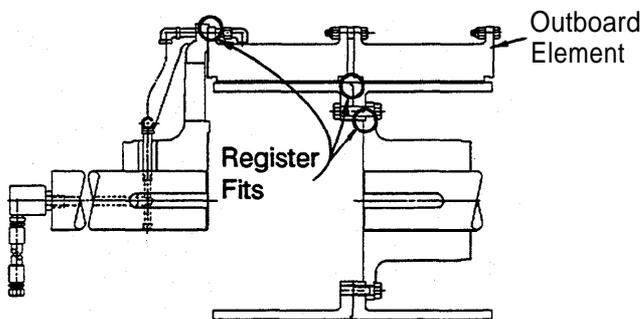

Fig. 4
2.1.1 Airflex VC grinding mill clutch applications are available in single-narrow, single-wide, dual-narrow and dual-wide mounting configurations. See Figure 4. The clutch configuration is determined by the motor horsepower and rpm, the allowable motor overload (per cent rated horsepower) for mill starting, the inertia of the mill and the charge, and the physical space available for the clutch. With the exception of single-narrow arrangements, all clutches can be supplied with axial locking devices.